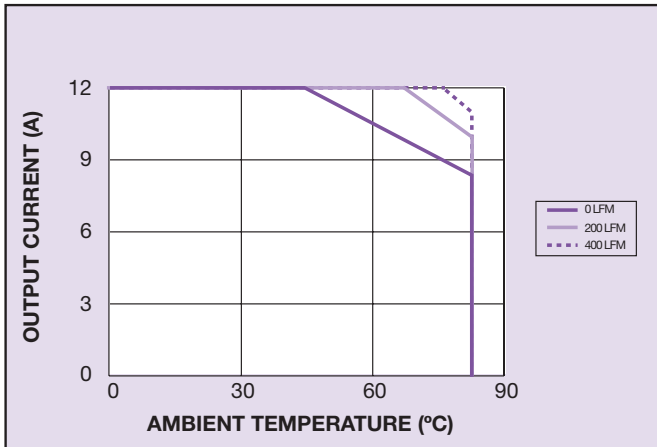

Figure 1 - Derating Curve
- 2 See Figures 1, 2 and 3 for derating curves.